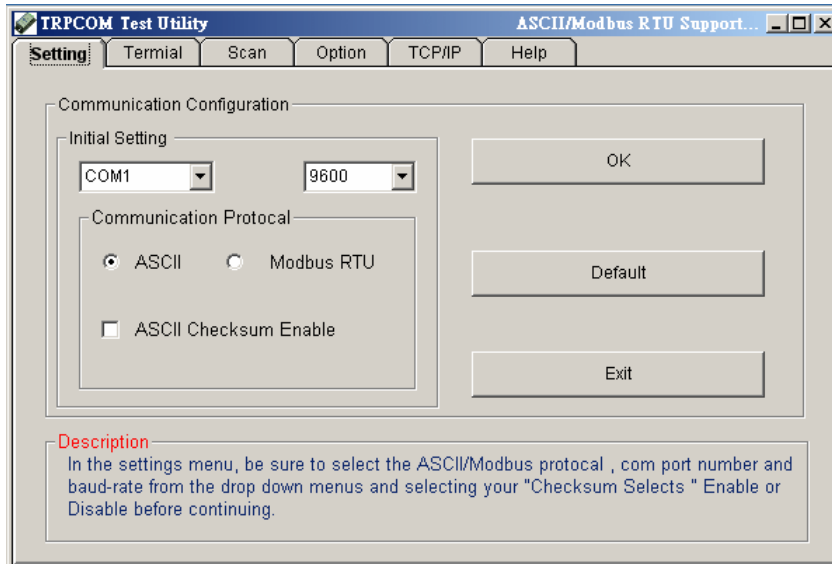

Figure 1
1.The "Setting " function is for user to initiate the software to set the Com Port from 1 to 8 and setting the Baud-Rate from 1200 to 19200,Checksum Enable or Disable. See Figure 1